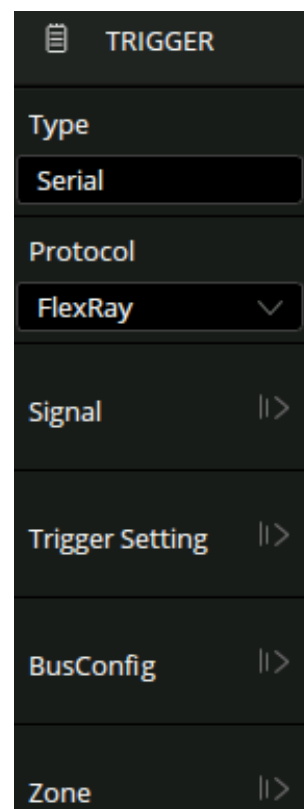

Figure 10.30
1. Touch the **Trigger** dialog box to display the **Trigger** menu.(Figure 10.30)